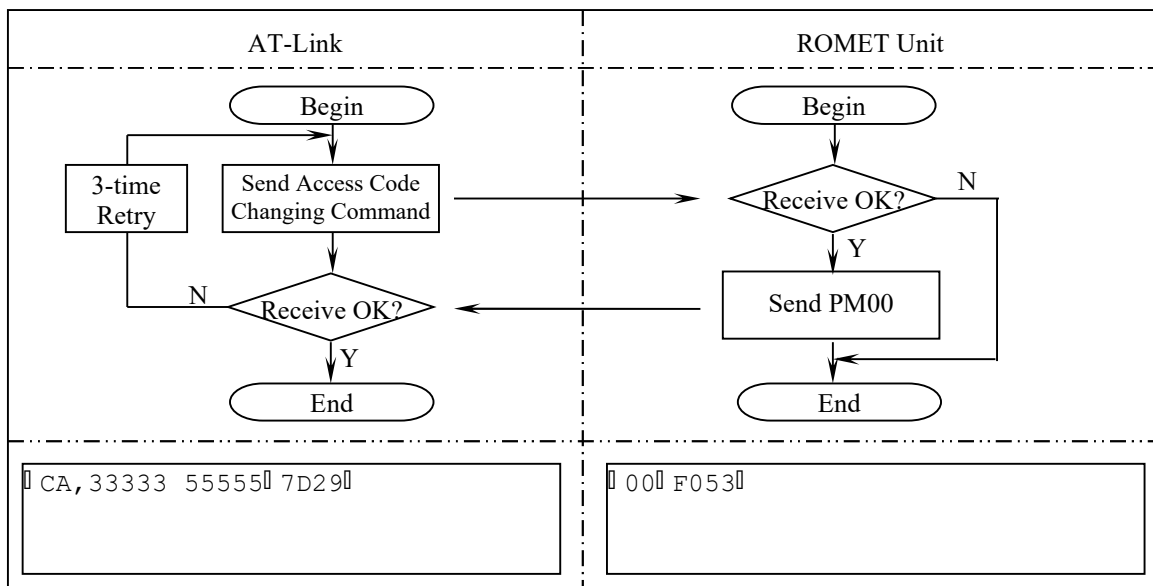

Figure 7-7. Access Code Changing Flow Chart
7.8 Access Code Changing (Figure 7-7)